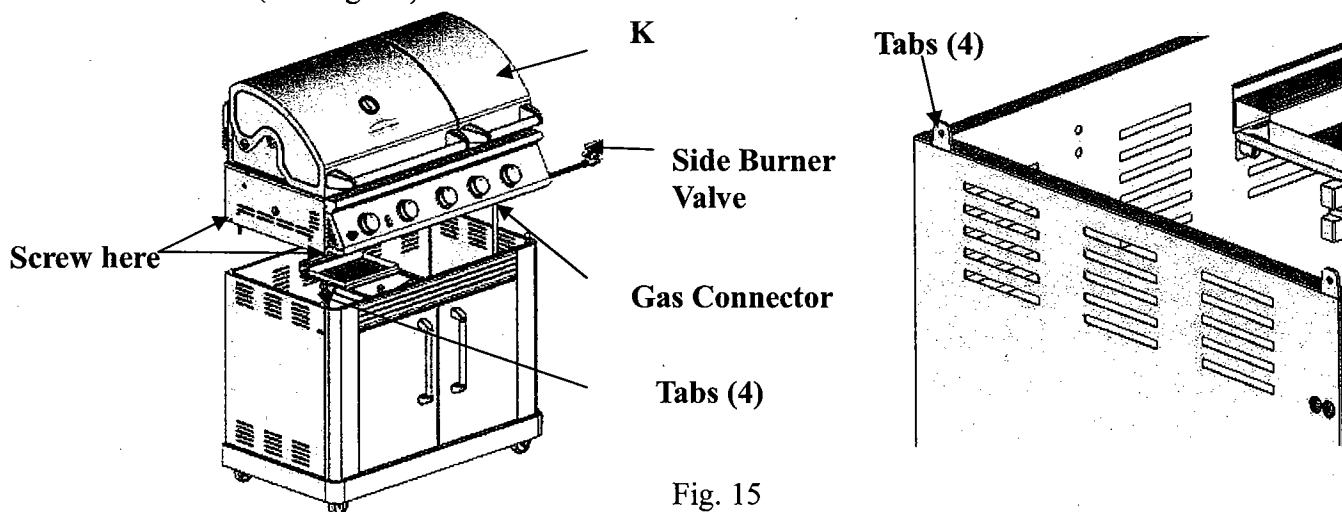

Fig. 15
- b. Take the pressure regulator (applicable only for LPG model) and side burner valve out from under the control box. Then lift the burner box onto the cabinet, making sure that the gas pressure regulator is in the cabinet and placed the valve on the outside of the burner box, then position burner box on the cabinet by aligning the four tabs on top of the cabinet with the holes in the burner box. (See Fig. 15)